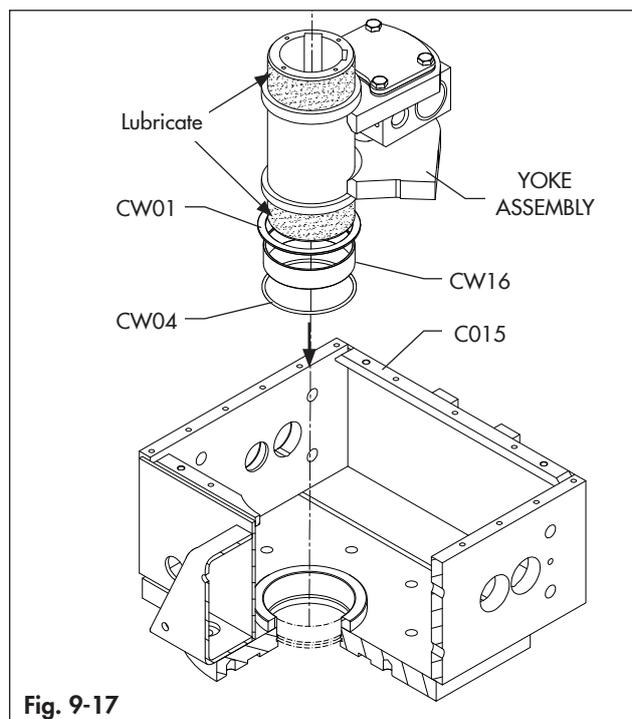

Fig. 9-17
- Place the o-ring (CW04), into the proper housing in the central module housing (C015). (Fig. 9-17)